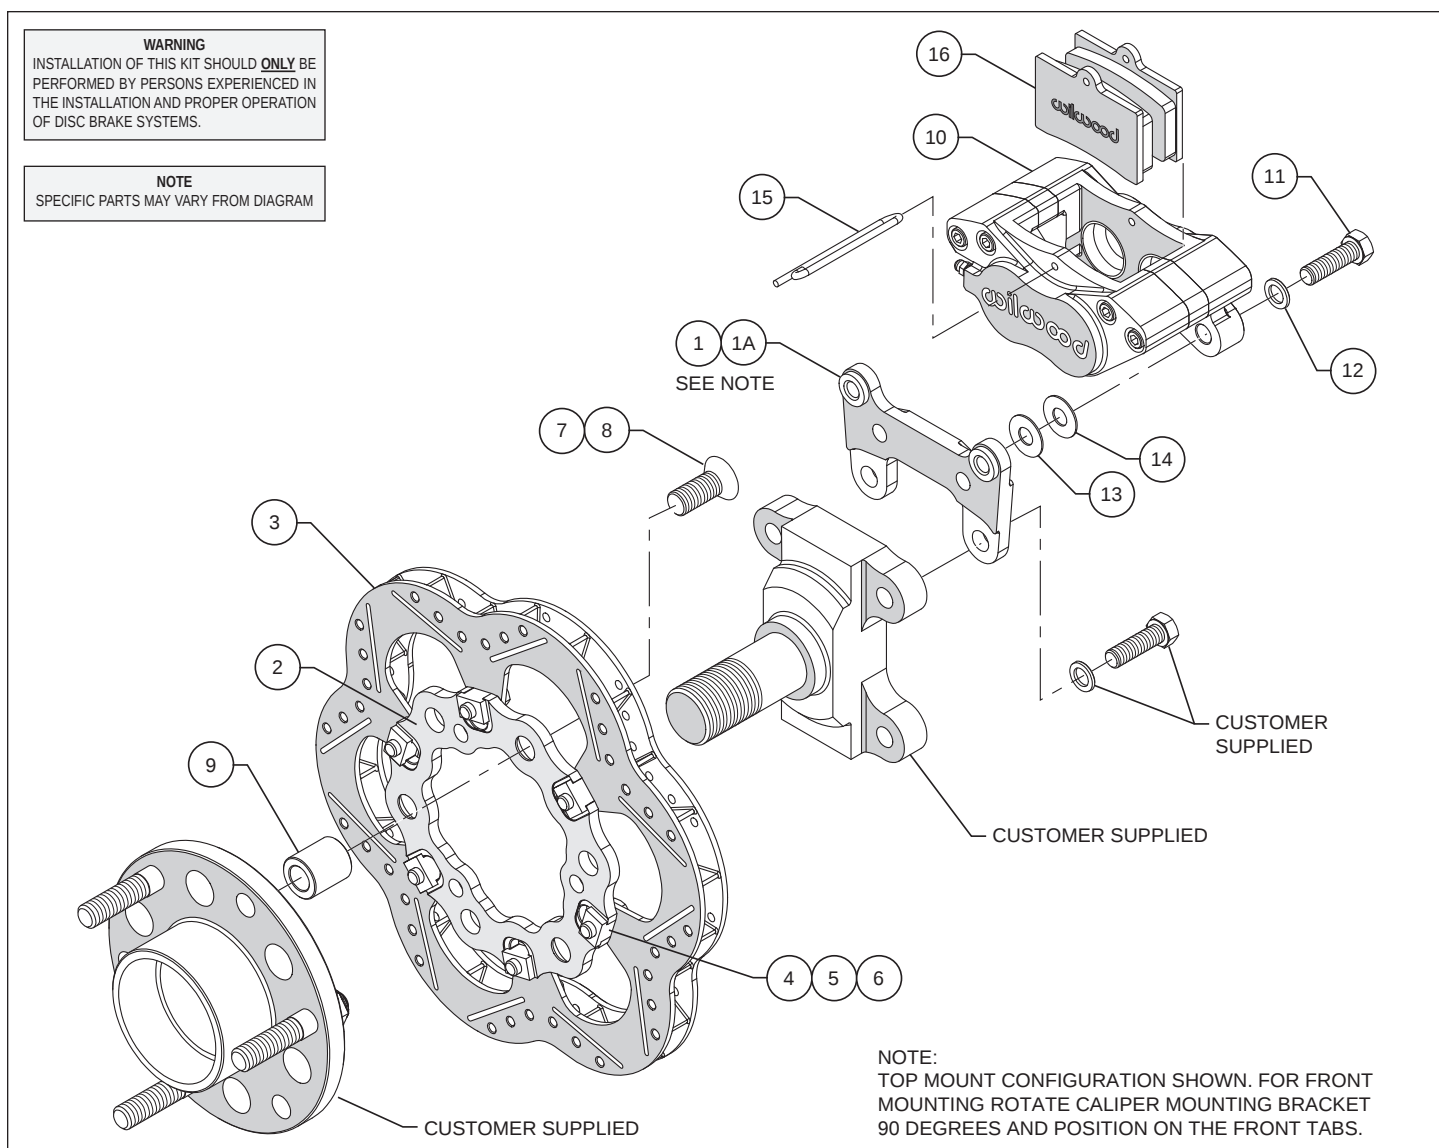

Figure 1. Typical Installation Configuration
Assembly Instructions (numbers in parenthesis refer to the parts list and Figure 1 on the preceding pages): **CAUTION:** All mounting bolts must fully engage insert nuts. Be sure to check that all bolts are either flush or protruding through flanged side of insert nut after shimming while making sure all other mounting bolts fully engage threaded holes, where applicable.
- Install the caliper mounting bracket (1 for front mount) or (1a for top mount) onto the inboard side of the spindle mounting tabs using customer supplied bolts and washers by first coating bolt threads with red *Loctite*® 271 and sliding bolt through washer, then through caliper mounting bracket and thread into the tabs on spindle as shown in Figure 1. The bracket must tighten squarely against the inboard side of the spindle mounting tabs. Inspect for interference from casting irregularities, machining ridges, burrs, etc. Torque bolts to specification.
- With the T-notches of the rotor adapter (2) facing away from the rotor (3), attach adapter to rotor using bolts (4), washers (5), and t-nuts (6) as shown in Figure 1. Finger tighten. After all t-nuts have been installed, torque bolts in an alternating sequence to 220 ± 20 in-lbs (~19 ± 1 ft-lb). Please refer to Wilwood's data sheet DS-669 (available at www.wilwood.com/Pdf/DataSheets/ds669.pdf) for complete t-nut bolt kit installation instructions.